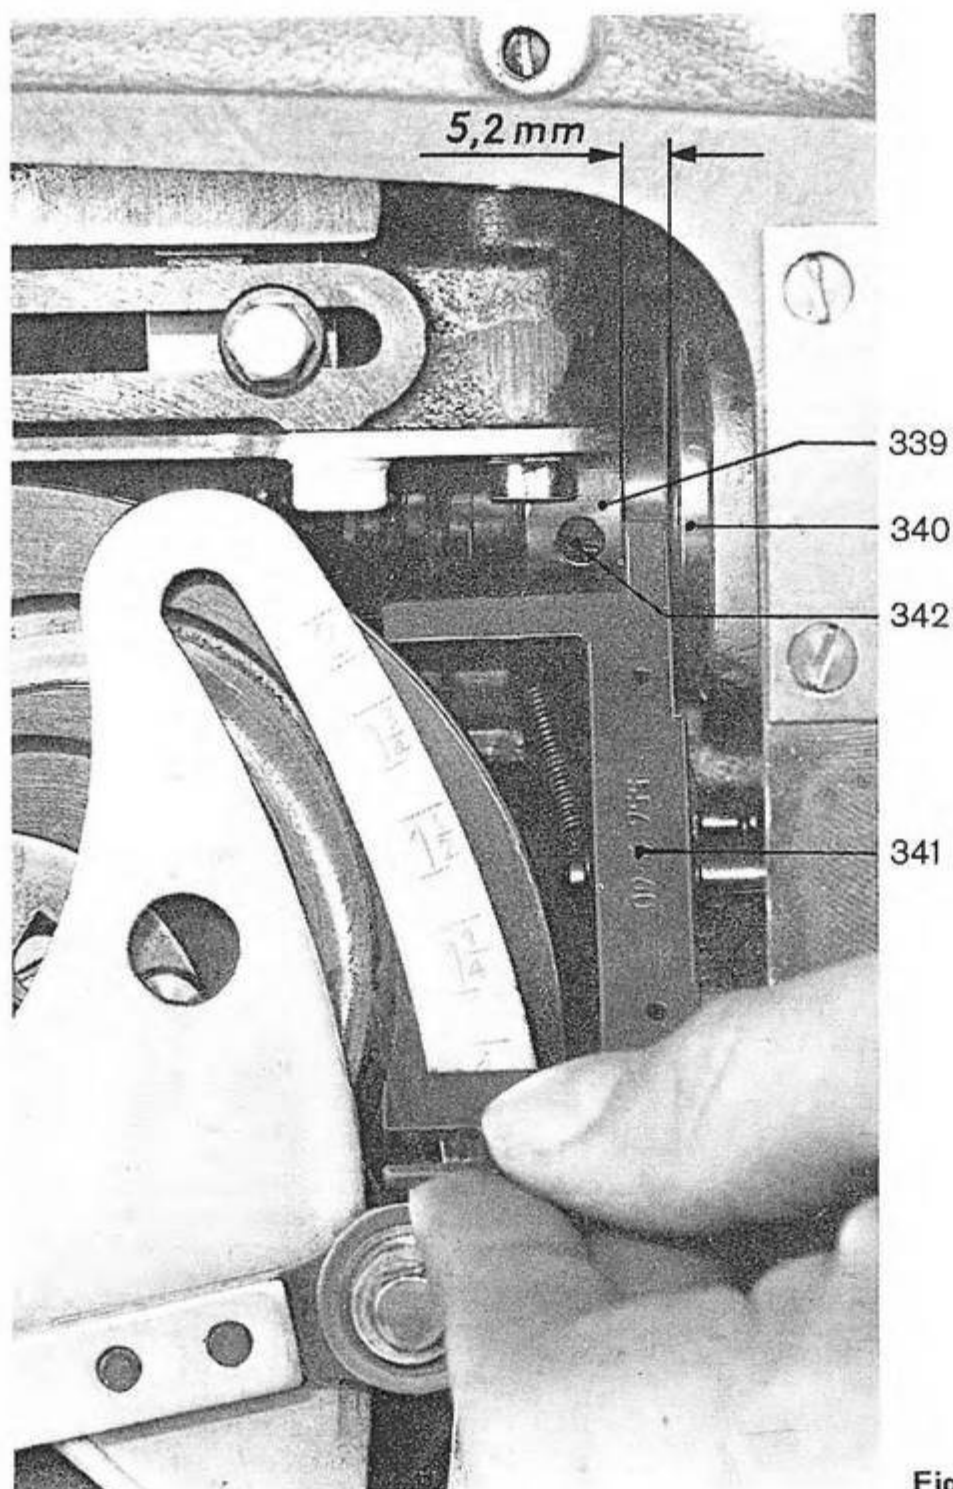

Fig. 77
Set the worm 339 (fig. 77) on the upper shaft so that the distance between the braking member or bearing 340 and the disengaging worm 339 amounts to 5.2 mm. See fig. 77. For adjusting this distance of 5.2 mm use the gauge 341, supplied by the factory under the ref. No. 556 2260, and proceed as follows:
2. With the flat belt removed from its pulley, engage the machine by hand and turn the hand wheel in the direction of rotation until the disengaging worm 339 (fig. 77) is in such a position that the fastening screws 342 can be loosened.
3. Set the disengaging worm 339 by the gauge 341 as shown in fig. 77 and retighten firmly the fastening screws 342.